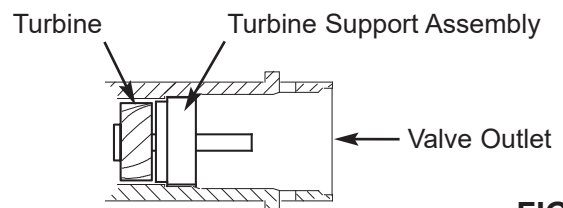

FIG. 7
- c. Be sure the turbine and support are in place in the valve outlet, as shown in Figure 7.